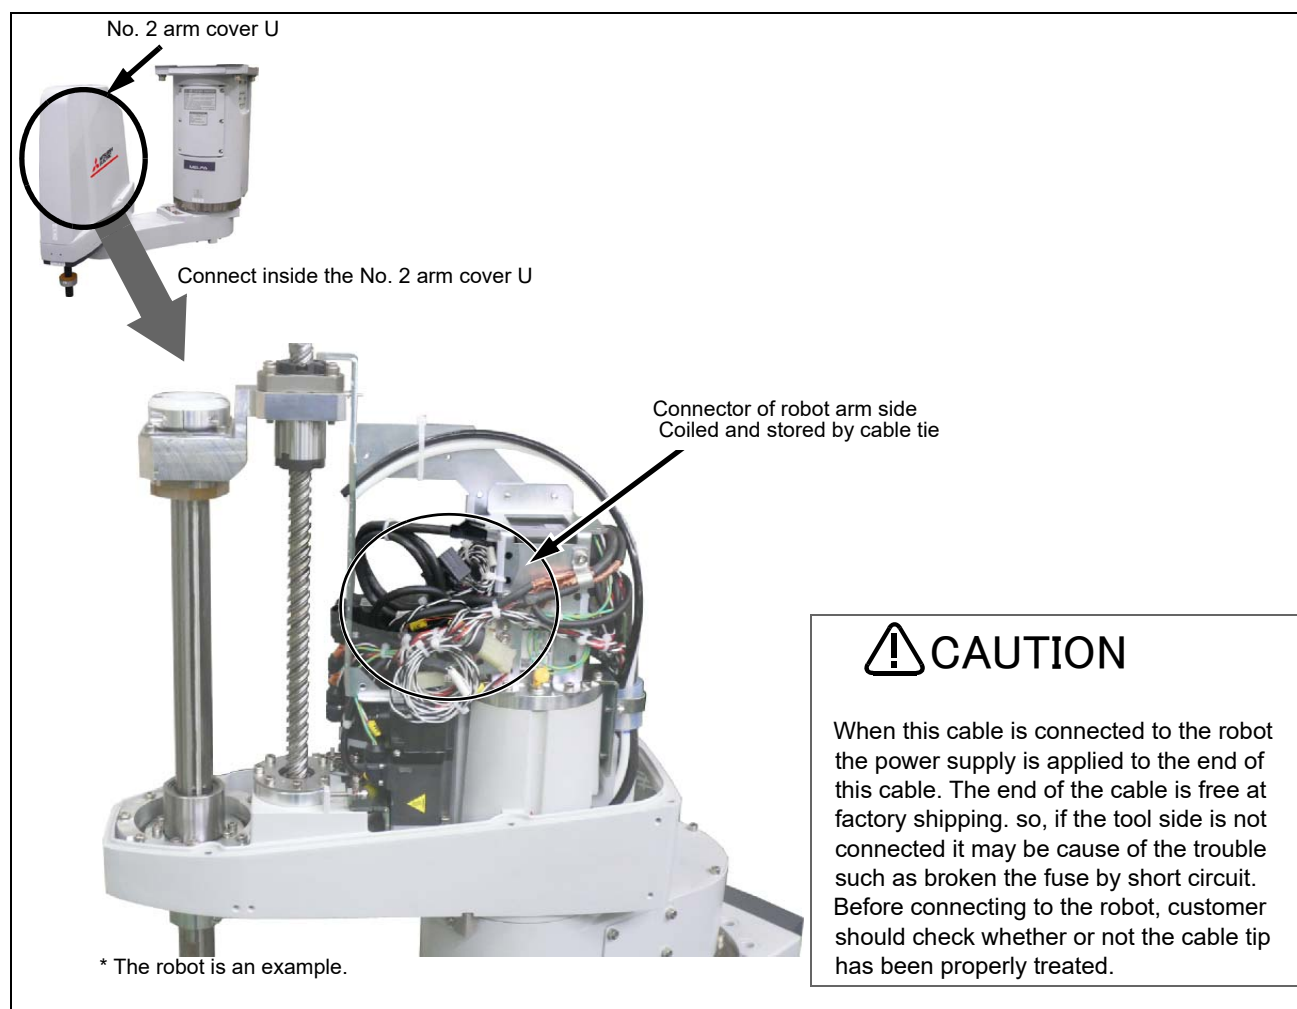

Fig.3-2 : Installing the hand input cable
Fig. 3-2 shows the hand input cable's storage location on the robot.
- 2) The hand input cable is stored in the location shown in Fig. 3-2. Pull out and check the connectors (HC1, HC2).